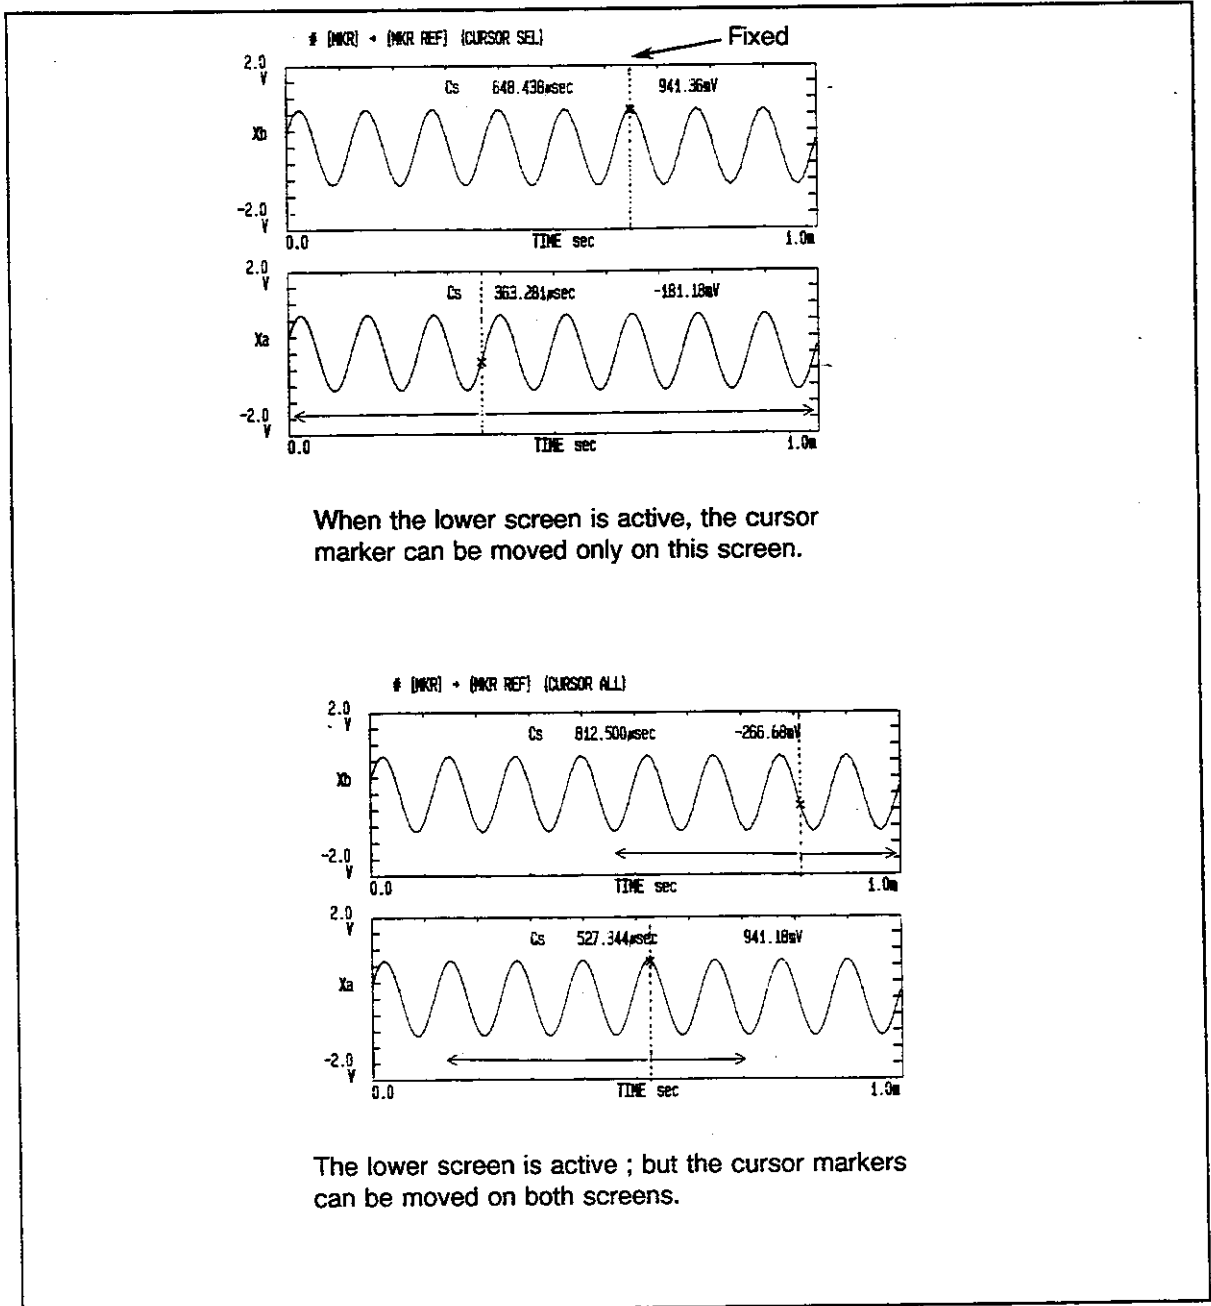

Figure 10-3 Moving Cursor Markers Simultaneously
- CURSOR ~~SEL~~/ALL: The cursor marker moves only on the active screen. (Upper screens in Figure 10-3)
- CURSOR SEL/~~ALL~~: The cursor marker moves on all screens. (Lower screens in Figure 10-3)